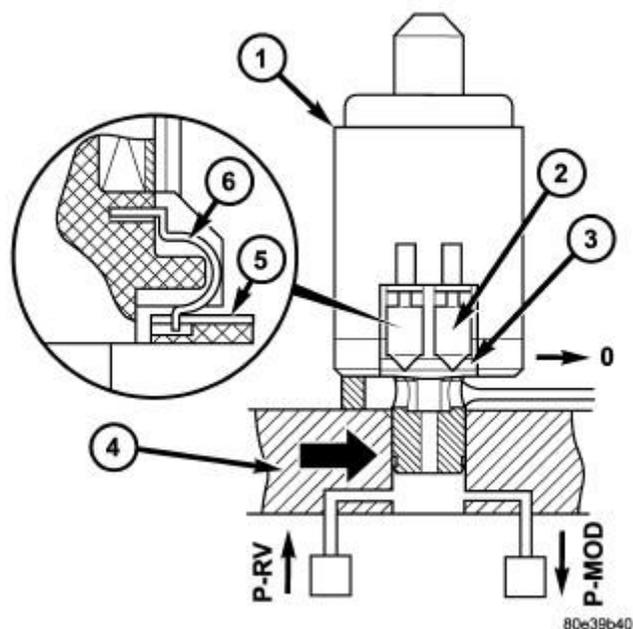

Fig. 201: Cutaway View Of Modulating Pressure Control Solenoid Valve
The modulating pressure control solenoid valve (1) is located in the shell of the electric valve control unit and pressed against the shift plate by a spring. Refer to **Fig. 201**.